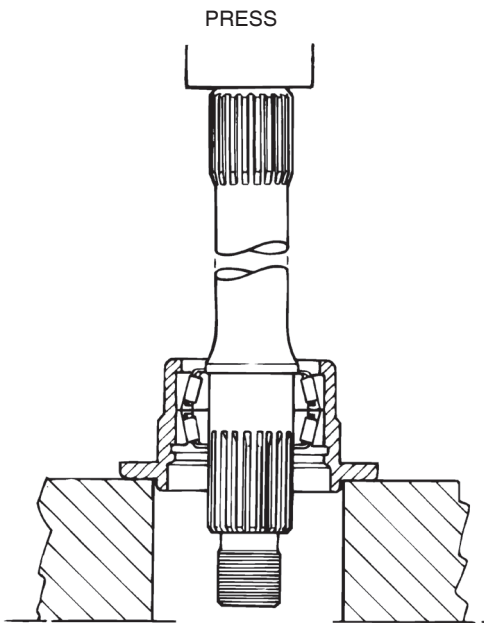

Figure 3.13
- A. Place the output shaft and the output bearing cage in a press. Figure 3.13.